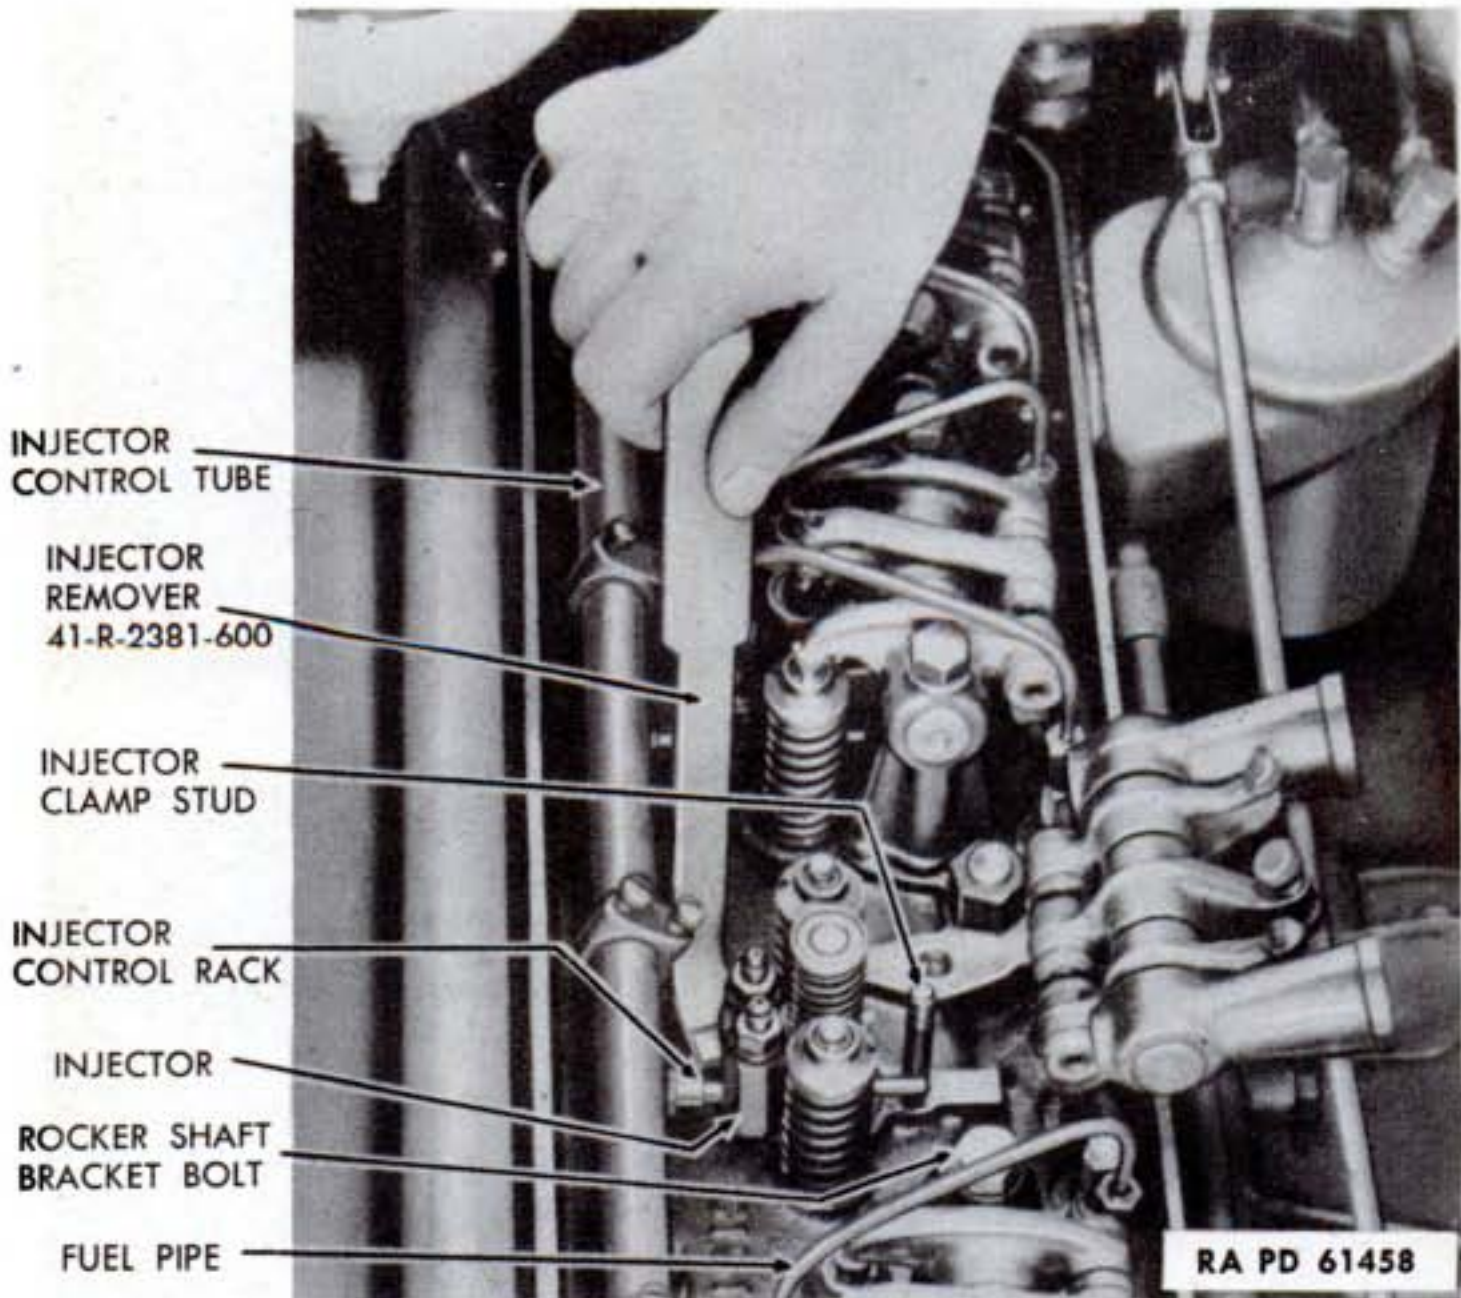

Figure 43—Removing Fuel Injector
a. **Description.** Diesel fuel is supplied to the cylinders by a direct injection system with an injector mounted between the two exhaust valves in each cylinder (fig. 40). The injectors are operated by rocker arms similar to the exhaust valve rocker arms and actuated by push rods operated by the same camshaft. For the method of supplying fuel to the injectors refer to paragraph 87 b. The amount of fuel supplied to the cylinders is controlled by linking all six injector racks to levers on a single control tube (fig. 43). The control tube on each engine is connected, through a governor, to the throttle linkage and the speed of the engines is controlled by the single throttle or by the accelerator.